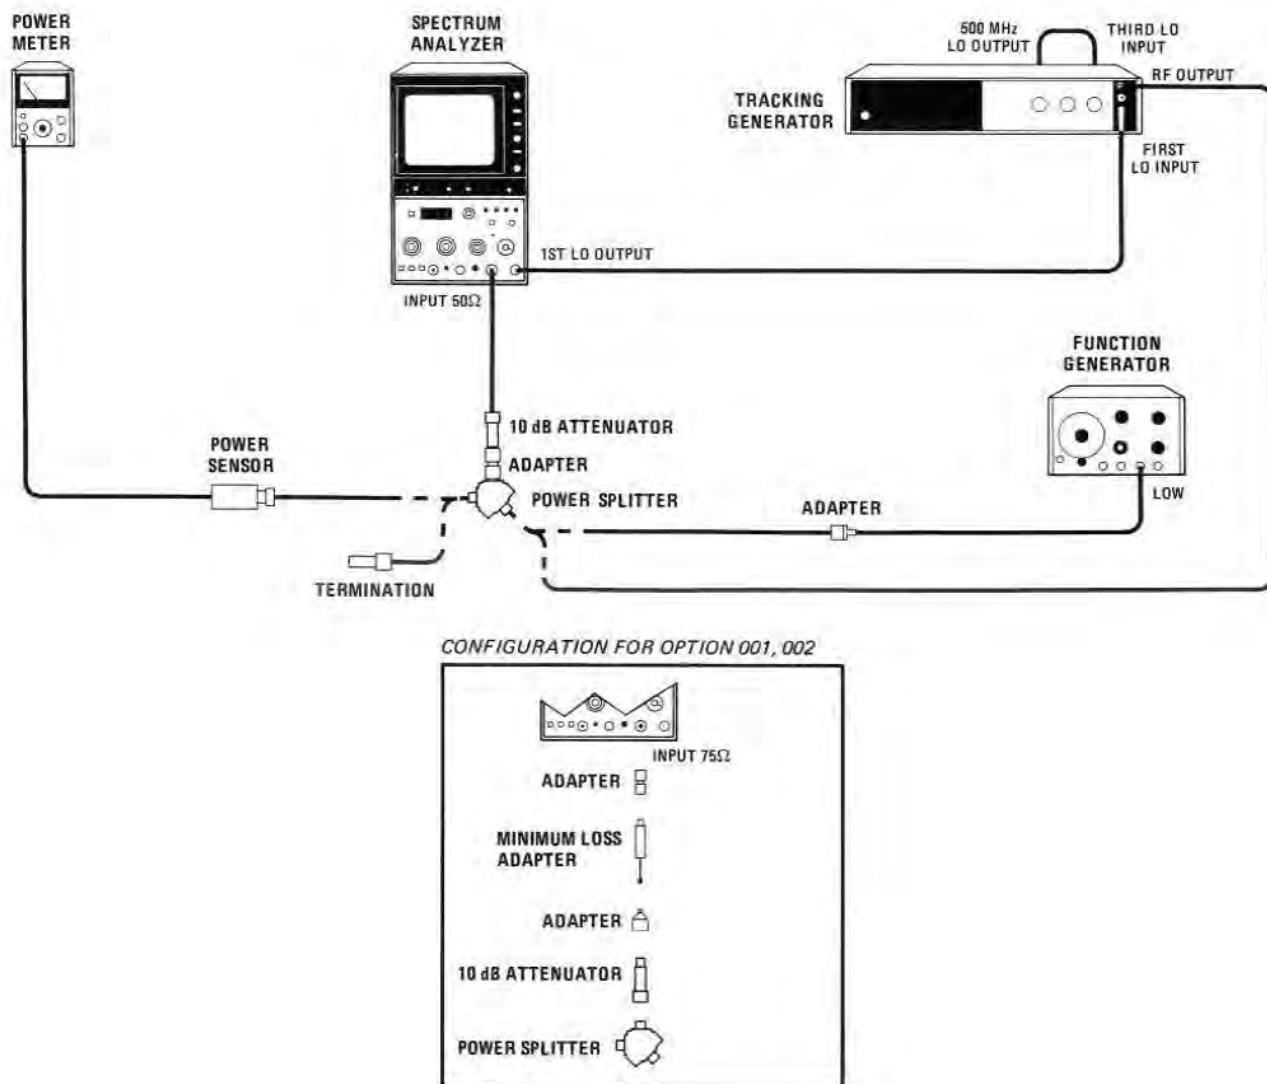

FIGURE 4-16. FREQUENCY REPONSE TEST SETUP
- Adjust TUNING for a FREQUENCY MHz reading of 5.0 MHz. Press FREQUENCY CAL. Set up equipment as shown in Figure 4-16. Connect the tracking generator 500 MHz LO OUTPUT to the THIRD LO INPUT (rear panel).